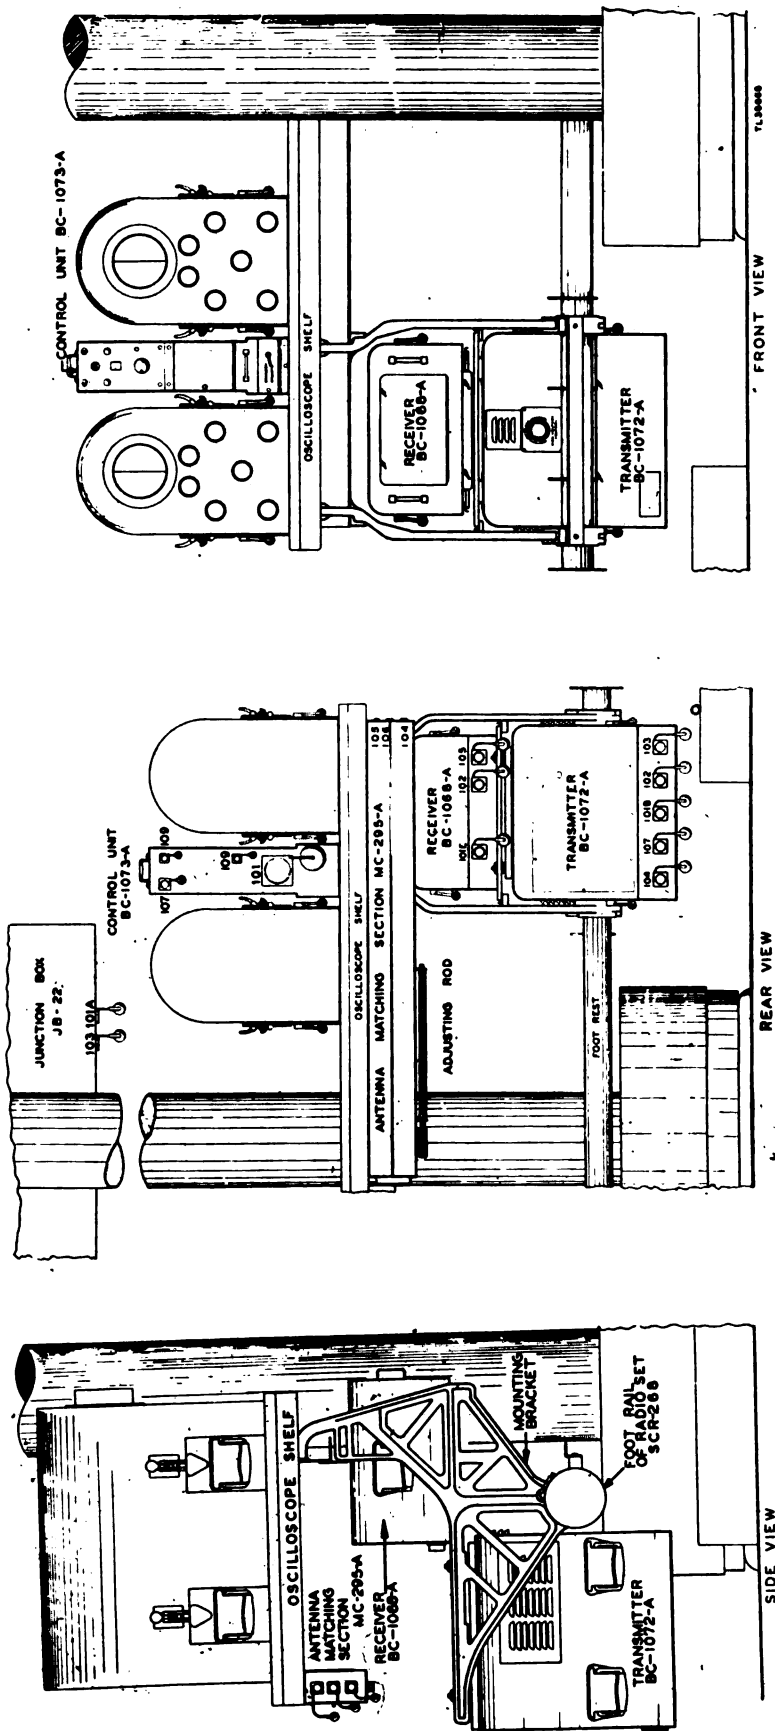

Figure 20. Front, rear, and side views of Radio Equipment RC-148 mounted on Radio Set SCR-268.
a. After removing this equipment from the shipping chests, assemble it as a complete unit before mounting it on the footrest of Radio Set SCR-268 (fig. 20). The platform of Antenna Trailer K-28-A is a convenient place to assemble the mounting brackets, which may be placed in position from this platform without unnecessary lifting.
Two men are required to set the transmitter in position on the under side of the mounting brackets (figs. 20 and 23).
a. Place Receiver BC-1068-A in position as shown in figures 20 and 23 with the front of the receiver towards the operator.
The control unit is mounted on the oscilloscope shelf between the azimuth and range Oscilloscopes BC-412, which are at the left of the operator's position on Radio Set SCR-268 (fig. 20).
The antenna matching section is mounted at the rear of and beneath the oscilloscope shelf of Radio Set SCR-268 as shown in figures 20 and 24.